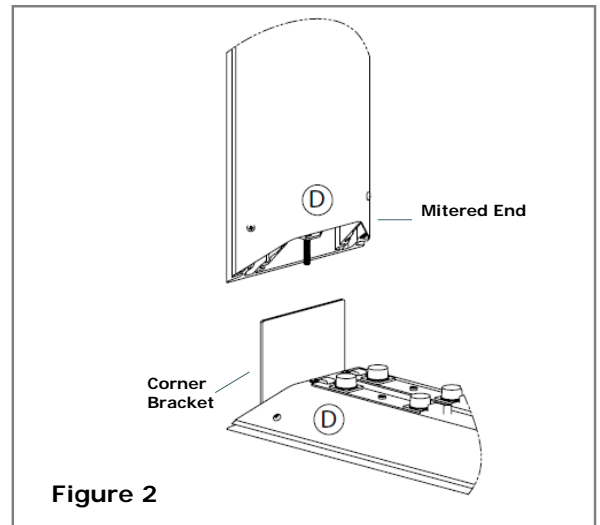

Figure 2
3. All corners will be made up of two mitered segments that have matching labels (ie, A to A, B to B). Arrange corner pieces perpendicular to each other. **See Figure 2.**
1. Corners are secured together with corner brackets. A corner bracket is pre-installed in one of the two corner segments of each corner. **See Figure 2.**